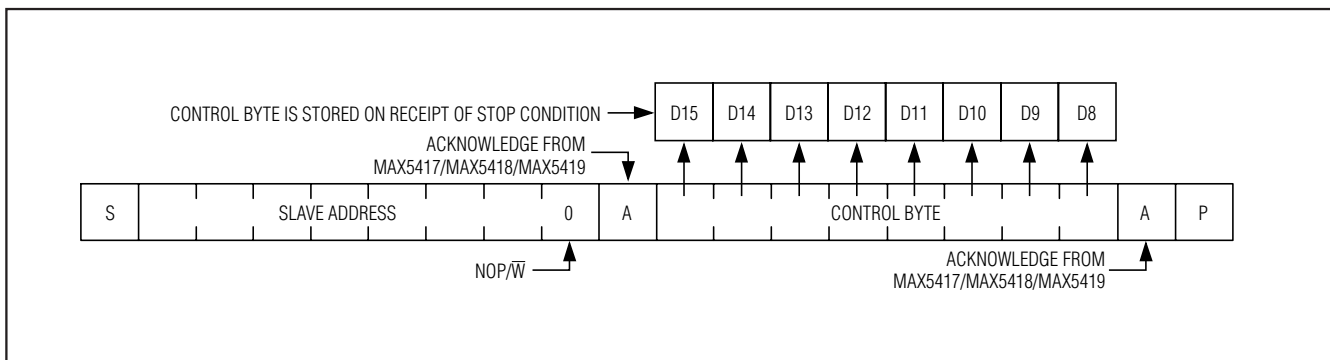
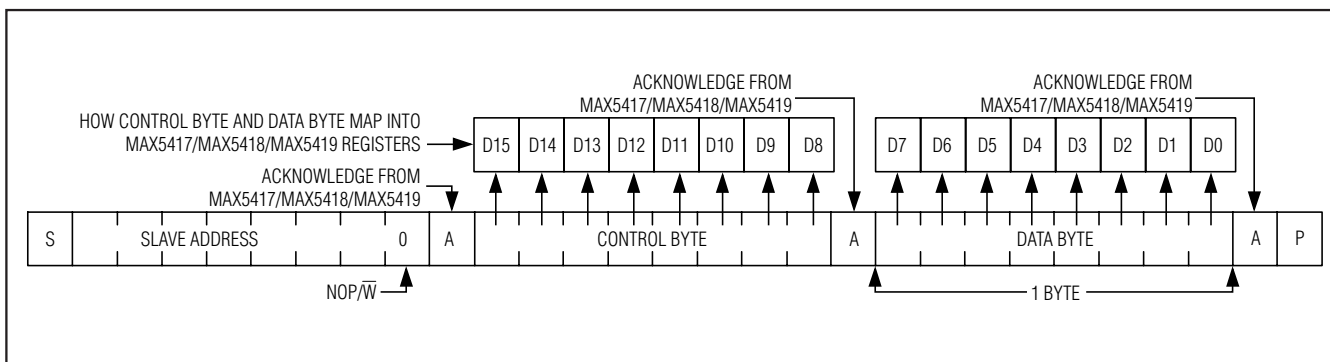

Figure 7. Command Byte Received
Figure 8. Command and Single Data Byte Received
Each transmission consists of a START (S) condition (Figure 3) sent by a master, followed by the MAX5417/MAX5418/MAX5419 7-bit slave address plus the 8th bit (Figure 4), 1 command byte (Figure 7) and 1 data byte, and finally a STOP (P) condition (Figure 3).
A write to the MAX5417/MAX5418/MAX5419 consists of the transmission of the device's slave address with the 8th bit set to zero, followed by at least 1 byte of information (Figure 7). The 1st byte of information is the command byte. The bytes received after the command byte are the data bytes. The 1st data byte goes into the internal register of the MAX5417/MAX5418/MAX5419 as selected by the command byte (Figure 8).